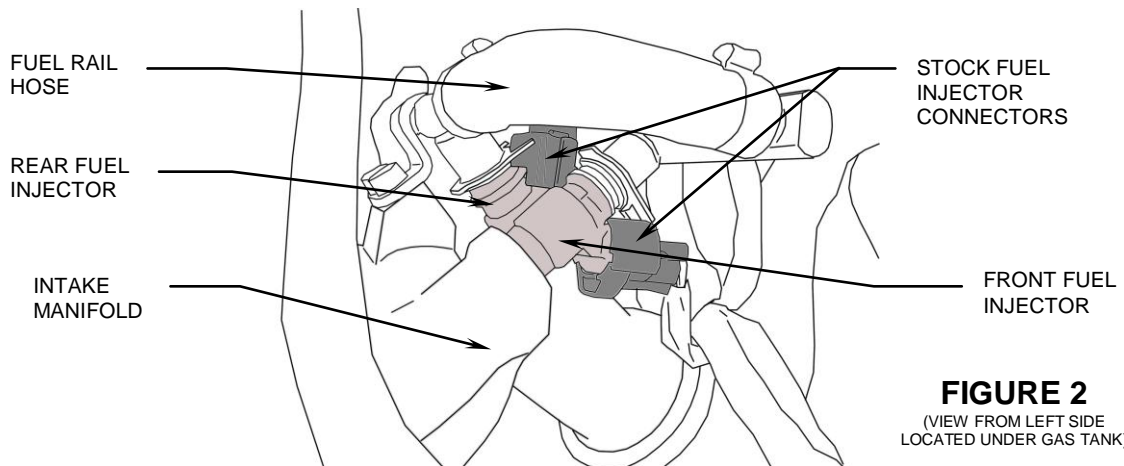

FIGURE 2
3. Locate the stock fuel injector for the front cylinder under the fuel tank on the left side of the motorcycle, see Figure 2. Unplug the stock connector and using the forward pair of Fi2000 injector connectors plug each male and female connector into the corresponding stock connectors. Repeat for rear fuel injector using the rear pair of Fi2000 injector connectors. Tuck the connectors and harness wires out of the way and lower the fuel tank.